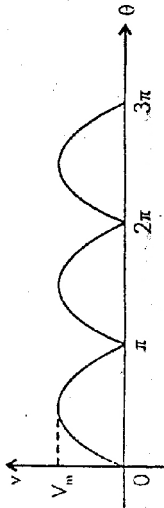

Fig. 2.6
6. Find average value and rms value of the waveform shown in Fig. 2.6.